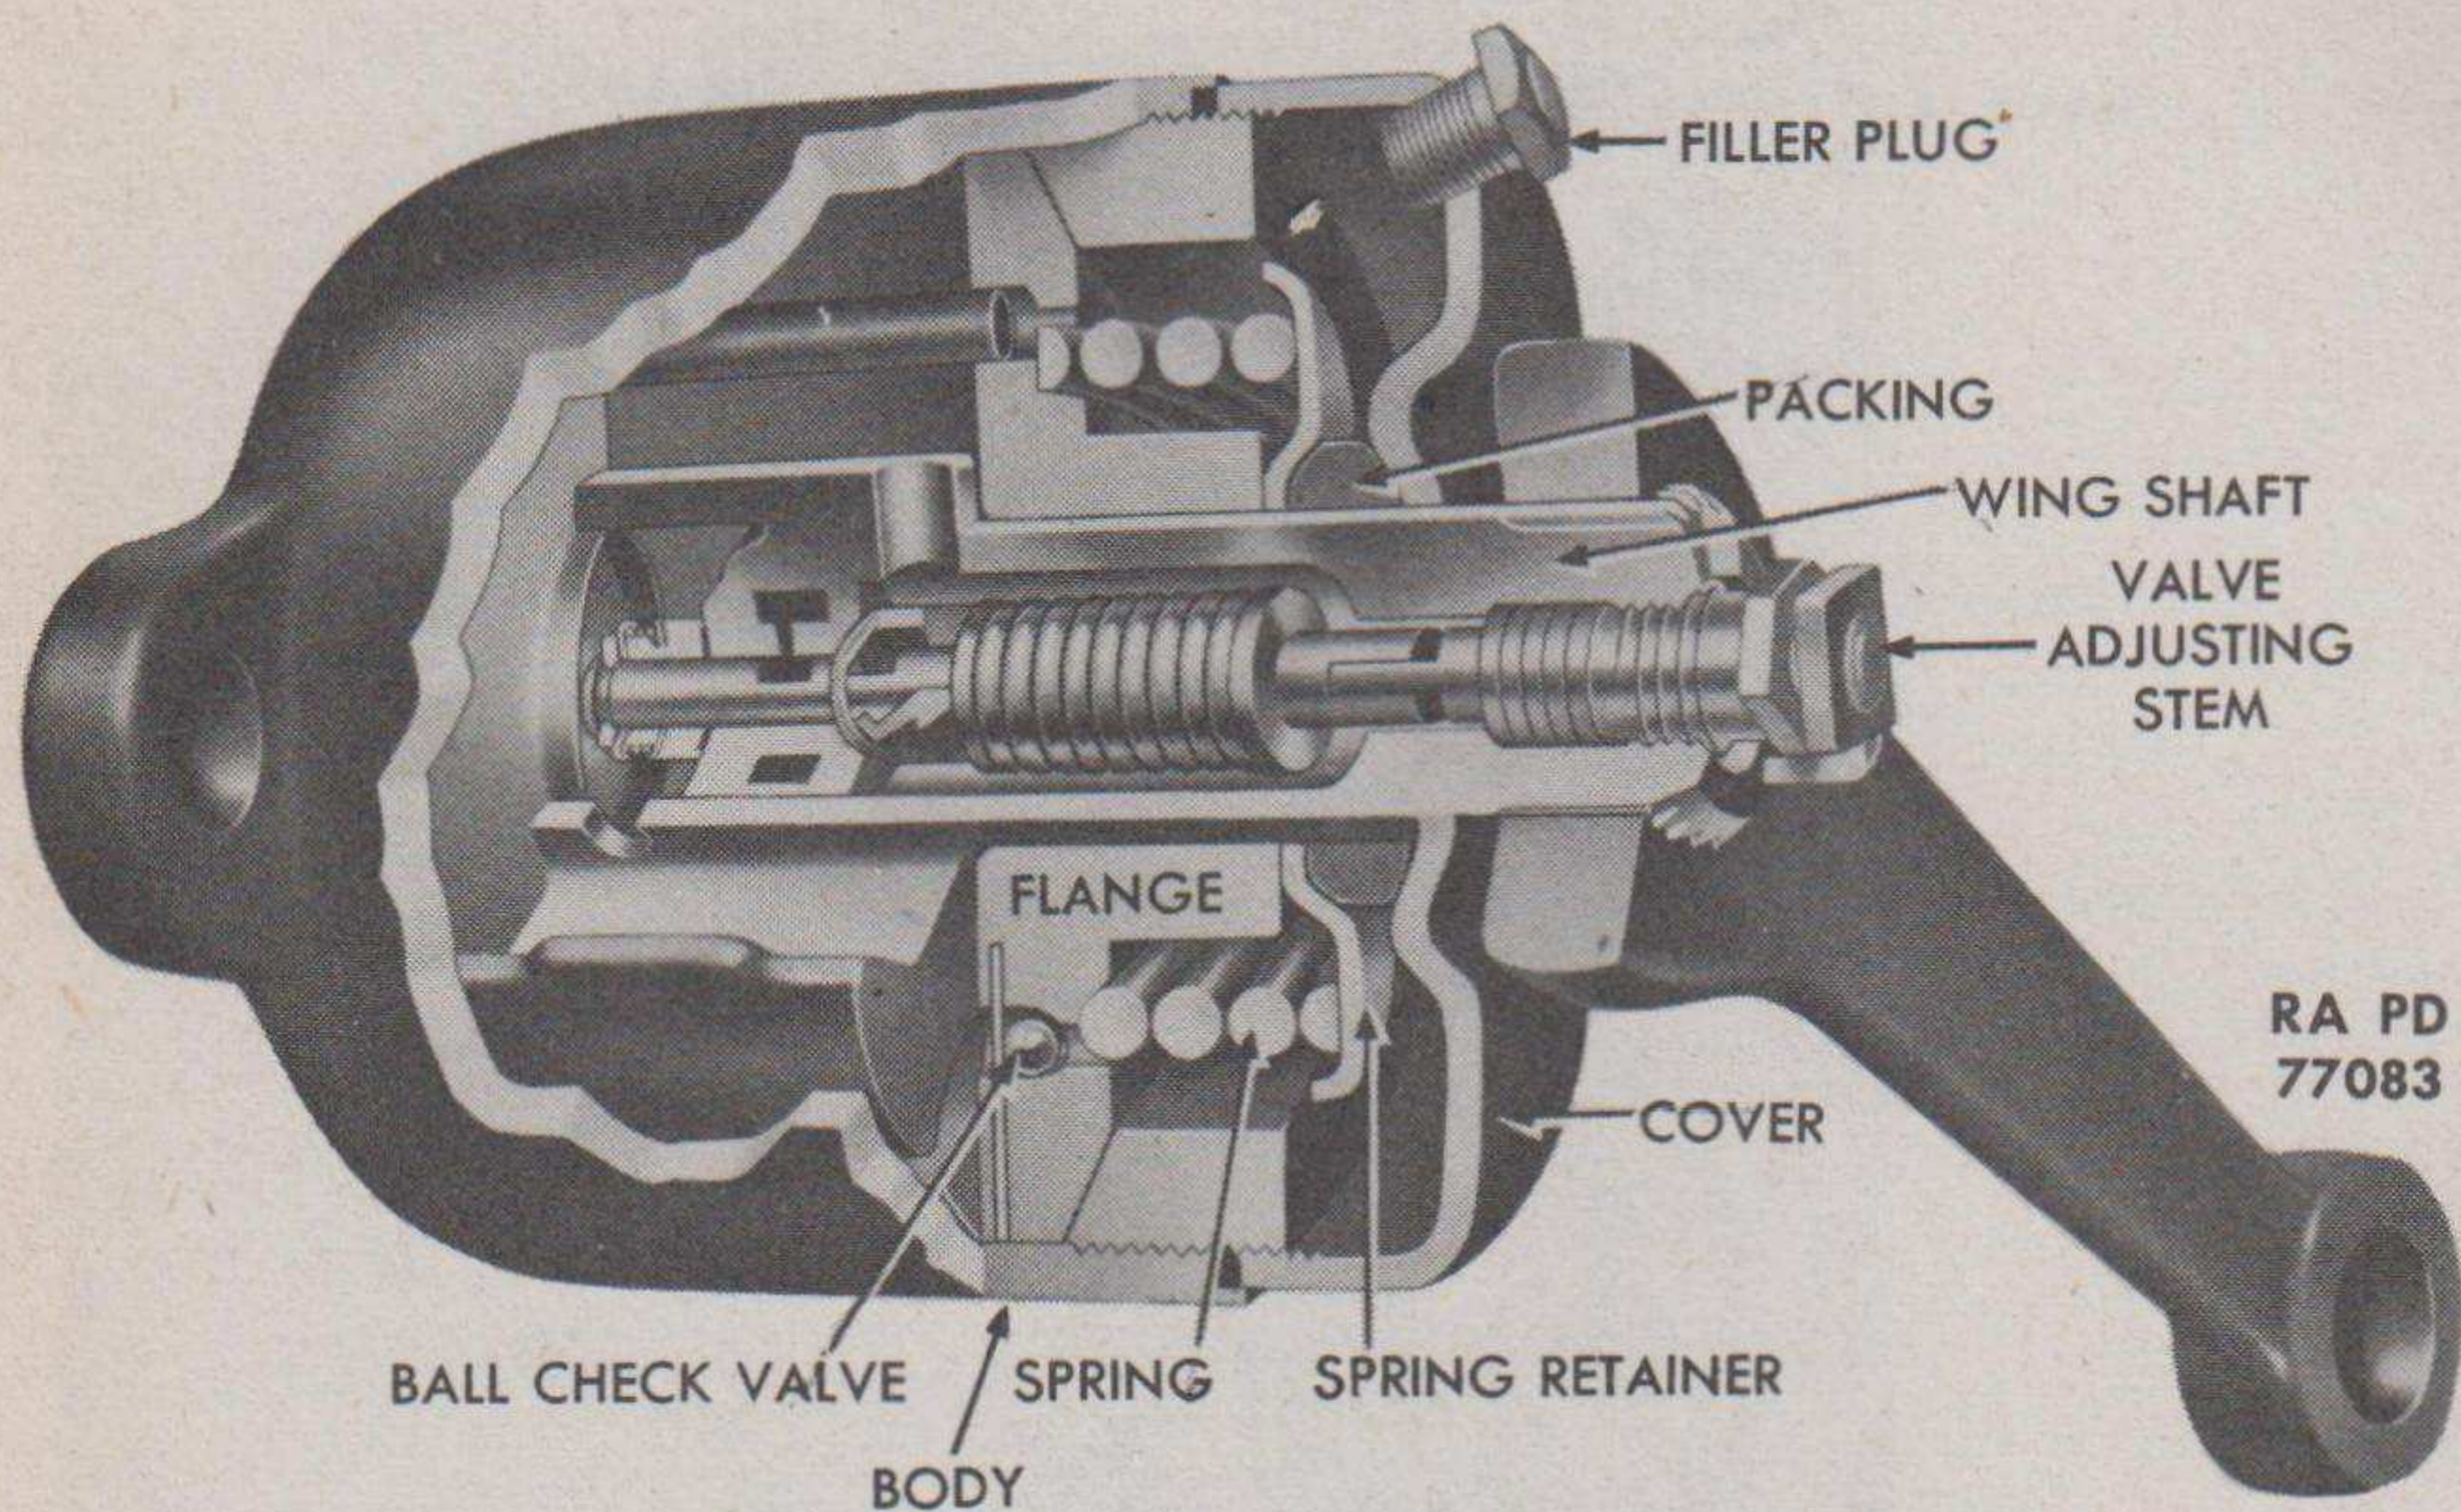

Figure 70 — Shock Absorber — Cutaway View
c. **Disassemble Shock Absorber** (fig. 70). Remove filler plug and drain fluid from shock absorber. Attach puller to shock absorber arm with short piece of pipe between puller screw and wing shaft to protect adjusting valve. Pull arm from wing shaft. Clamp body in vise and loosen cover, but do not remove cover. Place shock absorber in a hydraulic press with ram of press resting lightly against cover. Screw cover from body and release hydraulic press slowly. Remove shock absorber from hydraulic press. Turn shock absorber over and tap body to remove parts from inside body.
b. **Assemble Shock Absorber (fig. 70).** Position wing shaft in body. Install flange in body over wing shaft, making sure to align dowel pin and hole. Tap flange to seat and place new gasket in position around outside diameter of flange. Install flanged washer rim downward to hold gasket in place. Place spring, spring retainer, and oil seal packing over wing shaft. Place cover on spring retainer and press into body sufficiently to engage threads, using a hydraulic press for this operation. Tighten cover into body. Press shock absorber arm onto wing shaft. Fill shock absorber with heavy shock absorber fluid, and install filler plug.